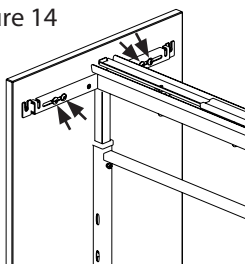

fig. 14
16) The next adjustment is left to right. Loosen two screws on each T type door mount bracket. Slide the door left to right so that the overlay is the same on both sides. Tighten both screws on each bracket. Once this adjustment is final, use two (#7) screws to lock the door in place. Refer to figure 14